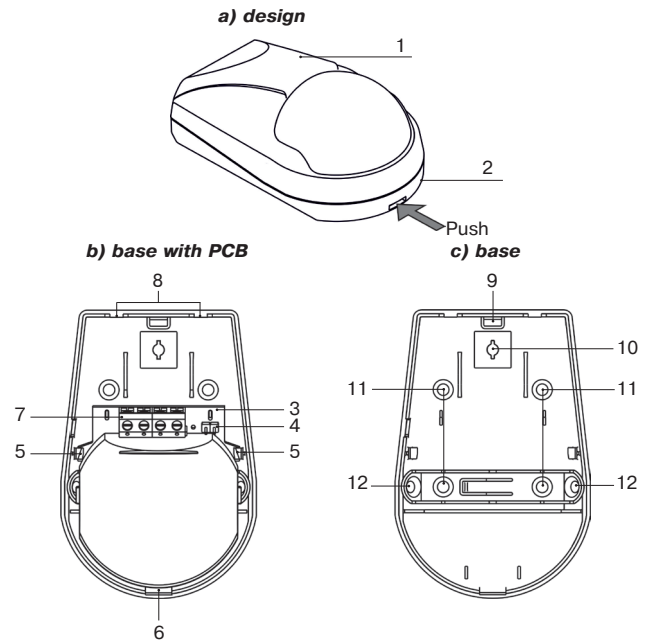

Figure 2 – The Detector Design
- Push the lock by a screw-driver through the hole on the lower side of the Detector base (See Figure 2) and put off the cover.